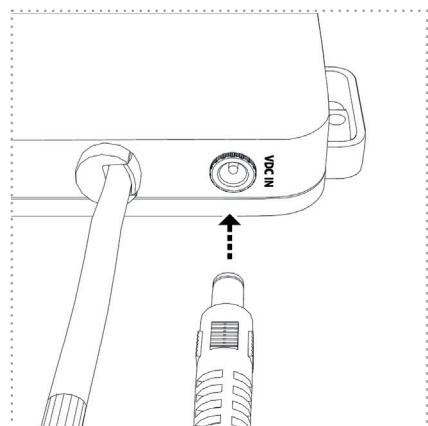

Figure 22
- Now plug the connector of the power supply cable into the designated socket on the UV unit (Figure 22).
In winter and at sub-zero temperatures, ensure that the water in the UV unit and in the entire water system does not freeze. If this cannot be guaranteed, open all water consumers/fittings and let the pump run until no more water comes out of the fittings. For safety, now remove the hose on the water outlet side to the UV unit so that any water residues can drain out (see Figure 22 or **4.3.4 Releasing Push-In Connectors (p.50)**). Place a towel or container under the UV unit for this purpose.